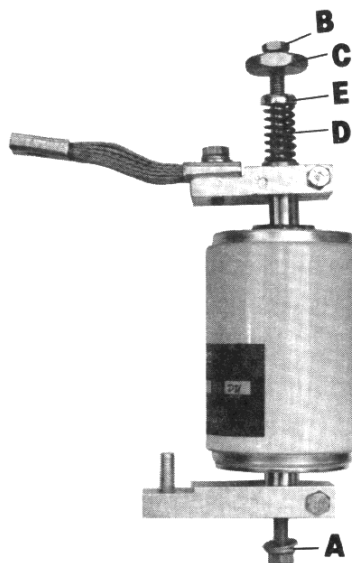

FIGURE 9
- 1) Remove bolt and washer (A) (See Figure 9) from the bottom of the bottle assembly.